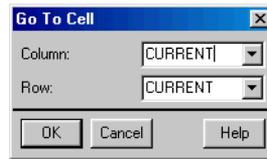

Figure 2.11: *The Go To Cell dialog.*
1. Press F5 or choose **View ► Go To Cell** from the main menu. The **Go To Cell** dialog opens, as shown in Figure 2.11.